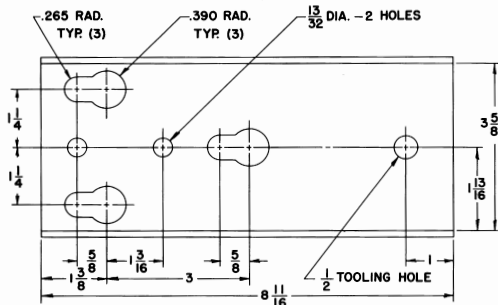

FIG. 2
4. Your winch is equipped with keyhole slots in the base for use with quick mounting shoulder studs, if desirable. (See FIG. 2&3) If you wish to use quick mount studs, they should be mounted securely into the winch stand. After positioning the winch on the studs, a 3/8" bolt should be placed in one of the other holes available to keep the winch securely in position.